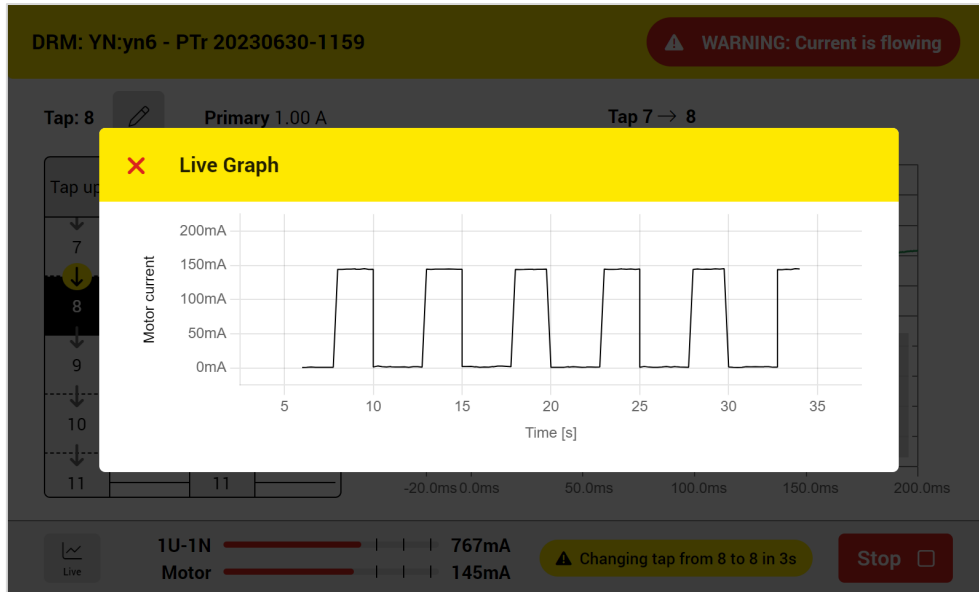

Figure 91: Tap changer motor live graph
- 3 To see the tap changer motor live current curve over time (Figure 91)